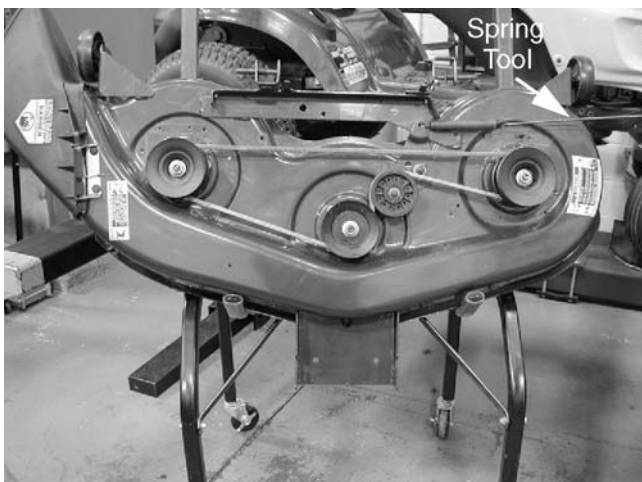

Figure 11-8
3. Relieve the belt tension pulley spring using recoil rope or a spring tool #732-0531. See Figure 11-8.